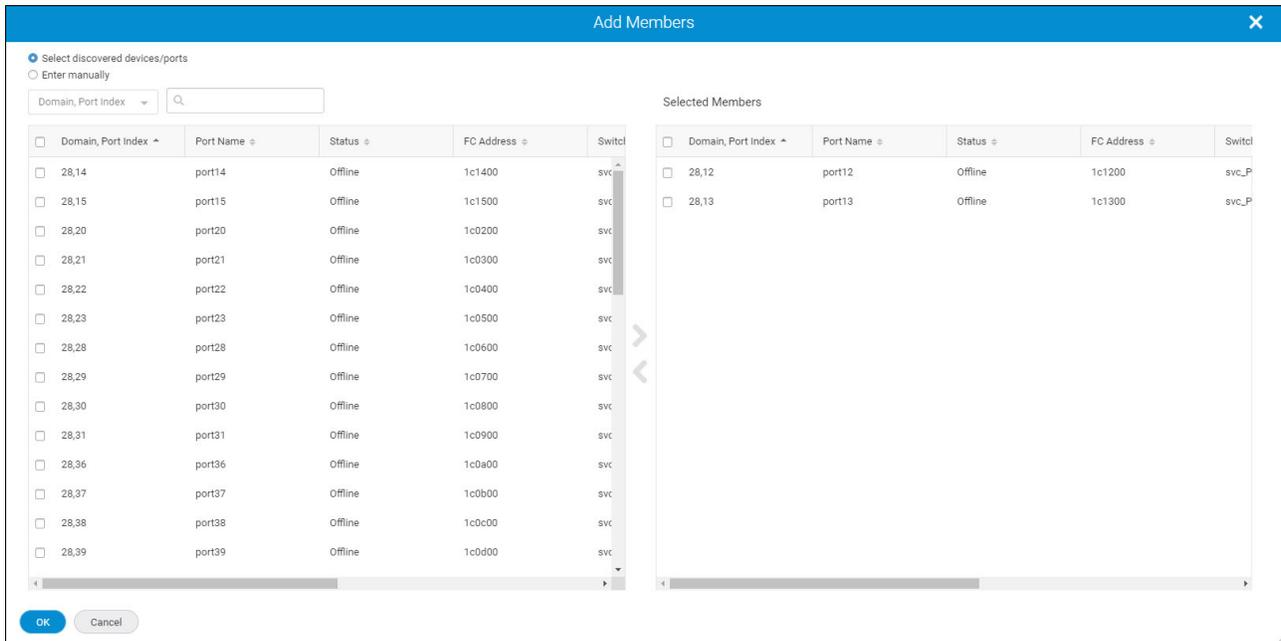

Figure 5-24 Create Single alias: Adding members
6. Click **OK** to add the members to the zone alias, as shown in Figure 5-24.